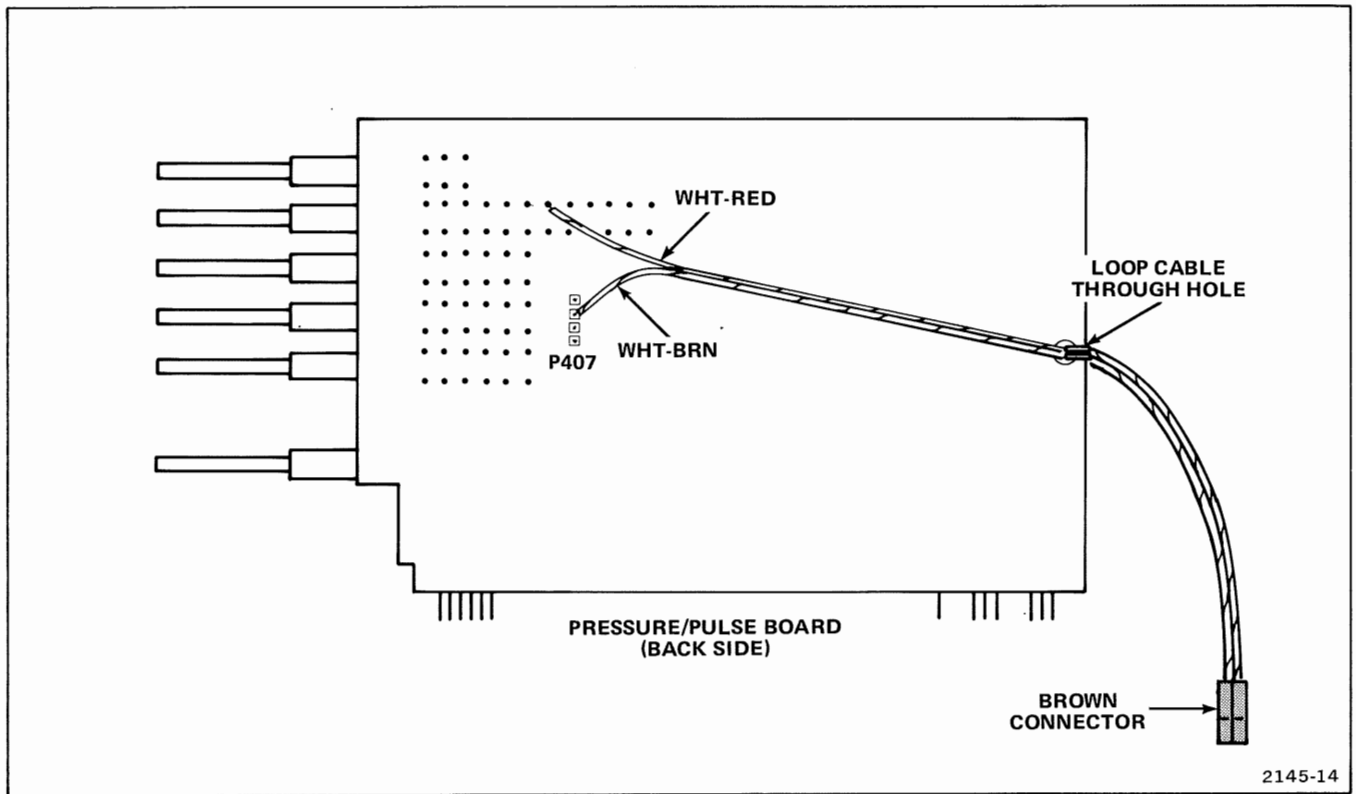

Figure 1-19. Installing 2-wire cable to 414 Pressure/Pulse Board.
4. Install 2-wire cable (with brown connector) on Pressure/Pulse Board as shown in Figure 1-19.